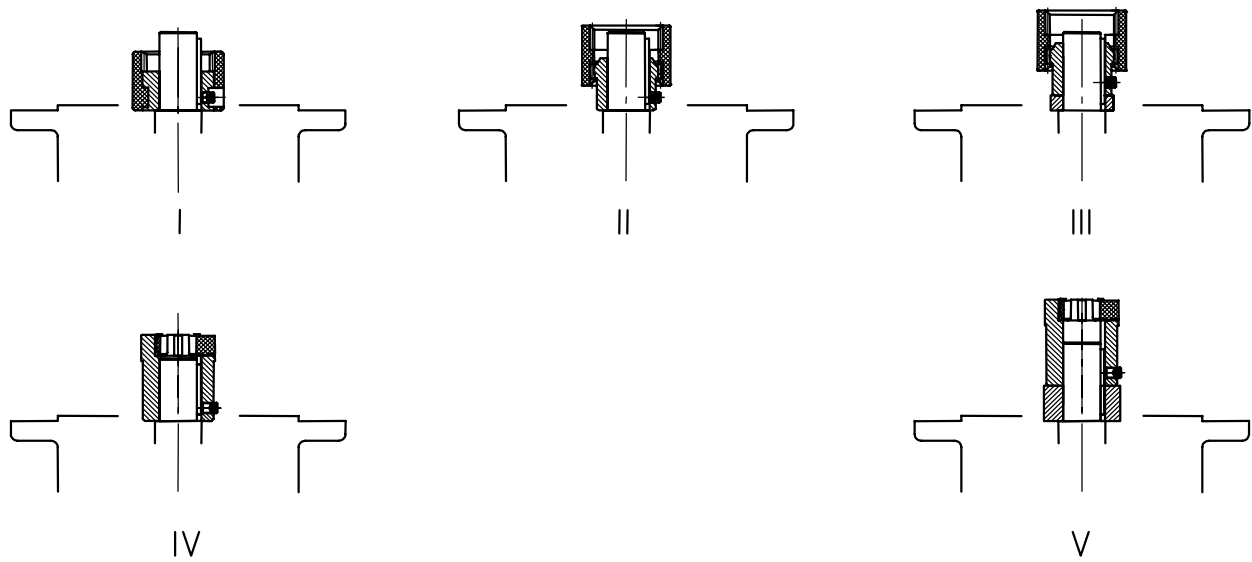

Figure 14. Fitting the Coupling
6. Mount the motor to the IEC /NEMA adapter, do not forget to fit the gear rim or the sleeve. (See Figure 14)